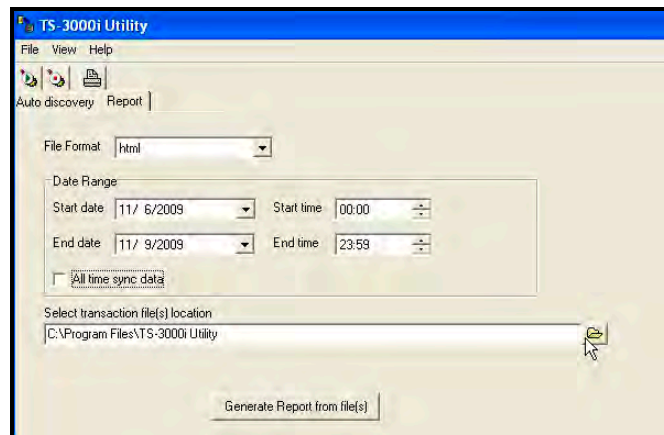

Figure 5-8. TS-3000i Utility Report Tab.
- Step 5. Click on the Browse button to use the Windows Select Directory dialog (see *Figure 5-8*) to navigate to the folder where the ***MAC address_ATVSTrans.txt*** backup files are to use for the report.